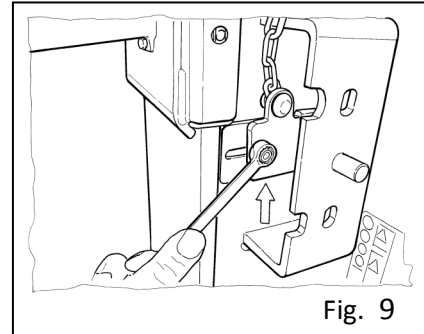

Fig. 9
- ensure that the board stroke end is correctly shifted and blocked in front. (Fig. 9)